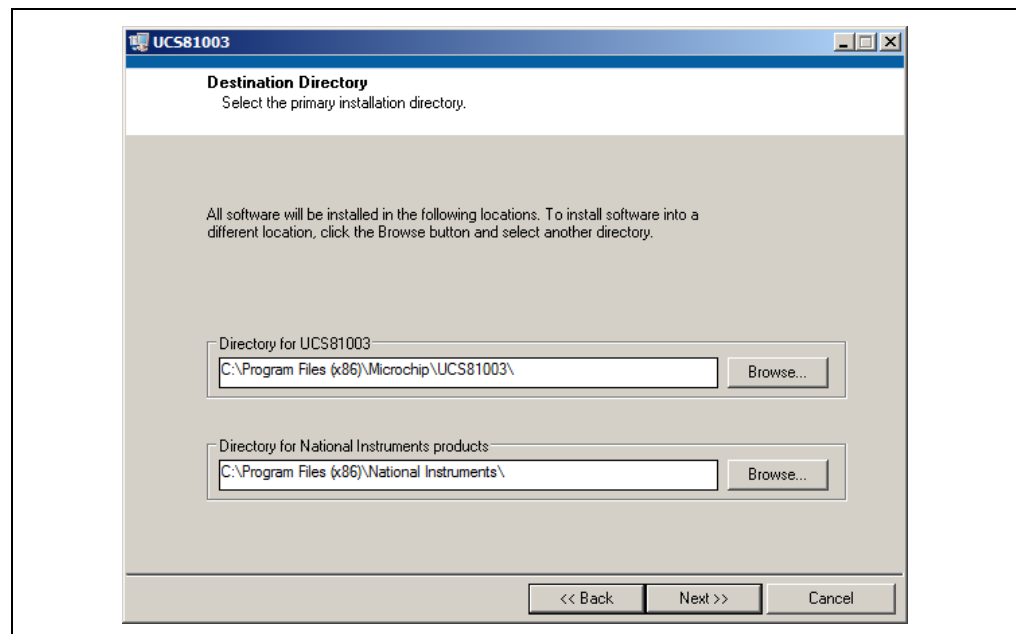

FIGURE 2-7: *Software Installation – Setting the Destination Directory.*
2. Click **Next** in the Destination Directory window, as shown in Figure 2-7. For proper operation, the files must be installed in the default locations. The default location for the software files is `C:\Program Files(x86)\Microchip\UCS81003\`, while for the LabVIEW software is `C:\Program Files(x86)\National Instruments\`.